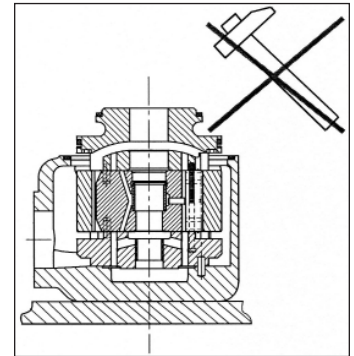

Figure 47
**WARNING:** Never use a hammer. The cartridge is to fit into the housing without any tools (Fig. 47).